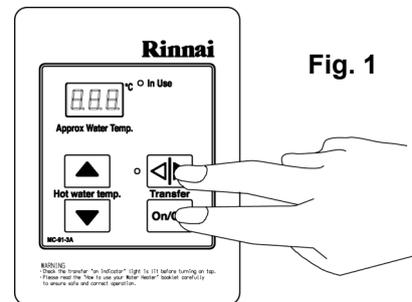

Fig. 1
STEP 1: On the Master controller only press and hold the **Transfer** and **ON/OFF** buttons simultaneously (see Fig. 1) until a “beep” is heard (approx. 5 seconds).
STEP 1: On the Master controller press and hold the **Transfer** and **ON/OFF** buttons simultaneously (see Fig. 1) until a “beep” is heard (approx. 5 seconds).